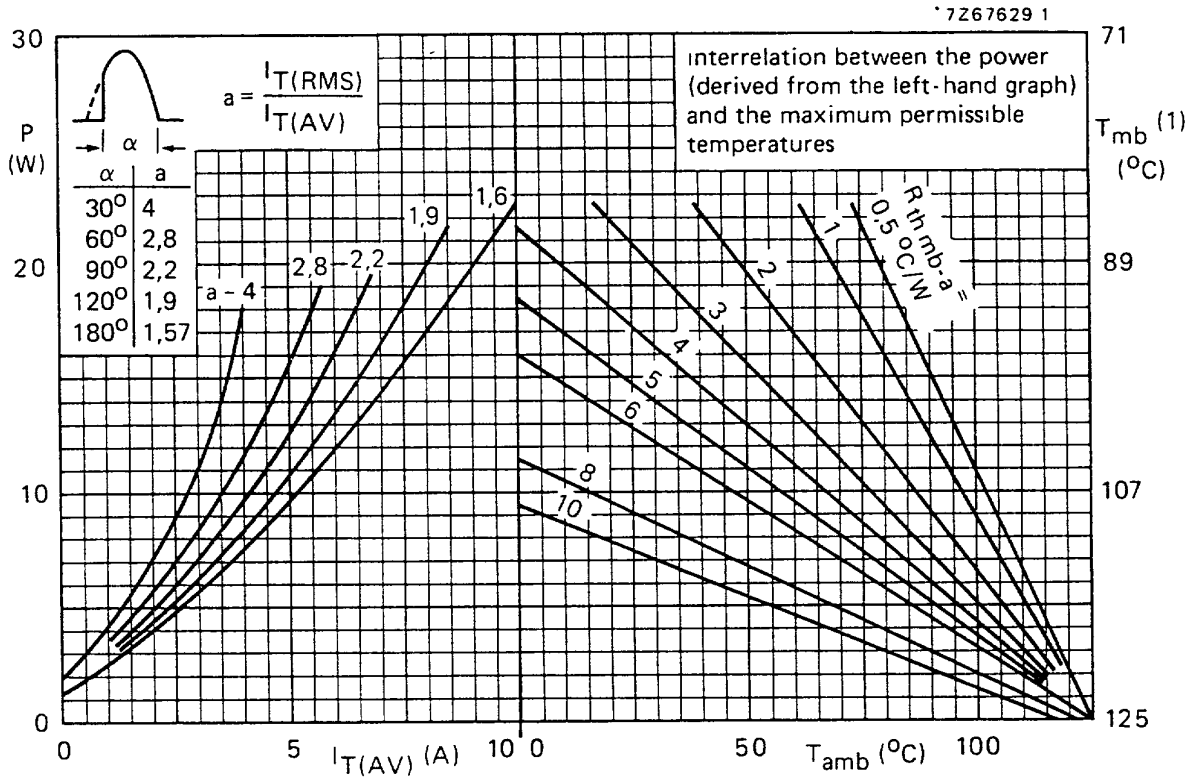

Fig. 3 (1) T_{mb} -scale is for comparison purposes only and is correct only for $R_{th\ mb-a} \leq 6\ ^\circ C/W$.
* To ensure thermal stability: $R_{thj-a} < 4$ °C/W (d.c. blocking) or < 8 °C/W (a.c.). For smaller heat-sinks T_{jmax} should be derated. For a.c. see Fig. 3.